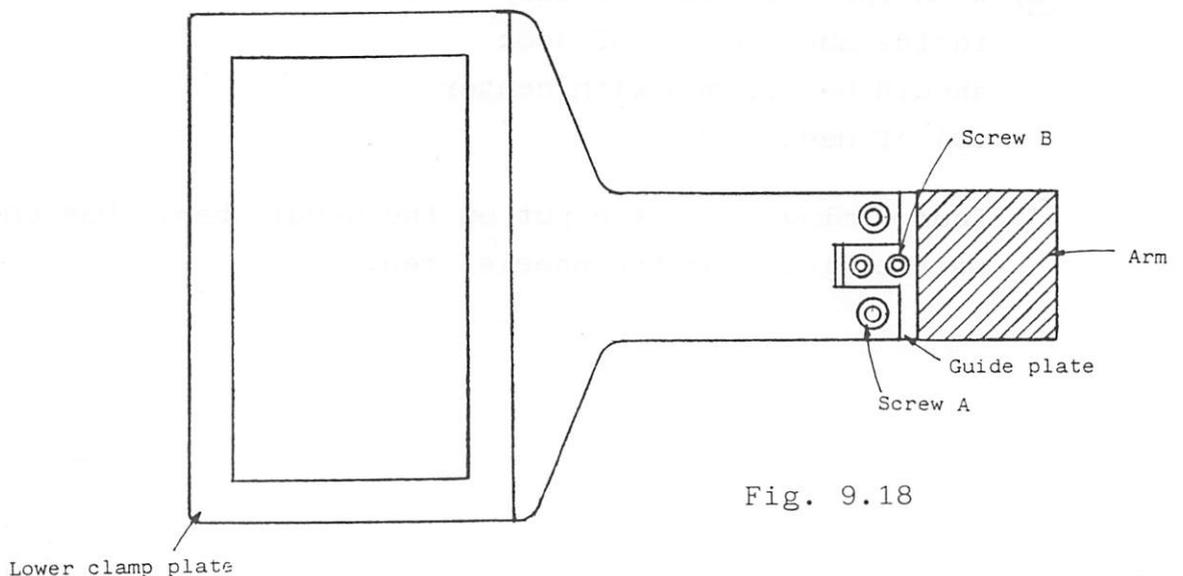

Fig. 9.18
- (1) To replace the lower clamp frame, remove the lower clamp frame mounting screw (screw "A" in Fig. 9.18).
- (2) The guide plate is provided for position adjustment of the lower clamp frame.